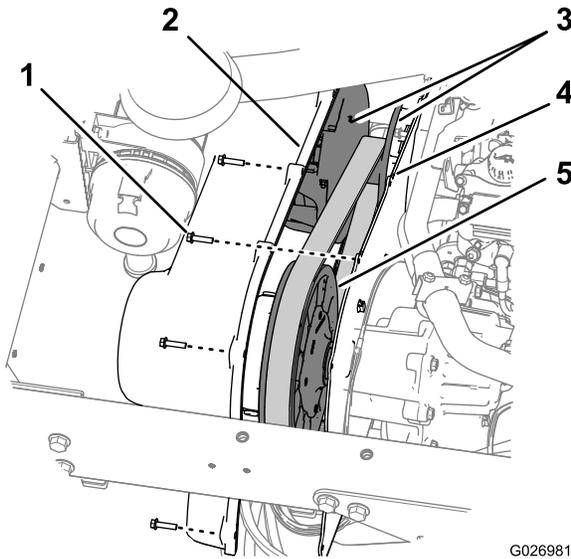

Figure 74
1. Remove the 9 hex-washer bolts (1/4 x 1 inch) that secure the transmission cover to the mounting plate of the transmission (Figure 74).
5. Align the holes in the transmission cover with the holes in the mounting plate (Figure 74).
6. Secure the cover to the mounting plate (Figure 74) with the 9 hex-washer bolts (1/4 x 1 inch) that you removed in step 1, and torque the bolts to 10.2 to 12.4 N-m (90 to 110 in-lb).